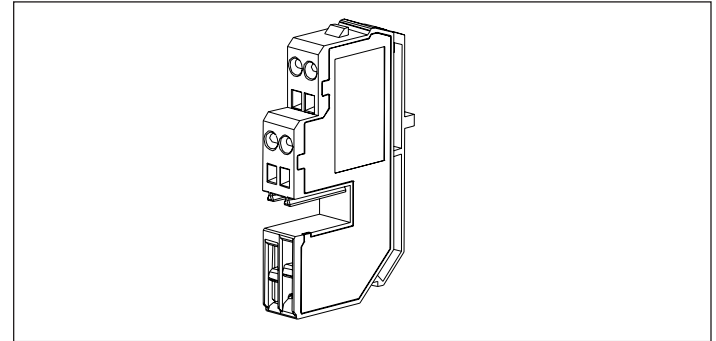
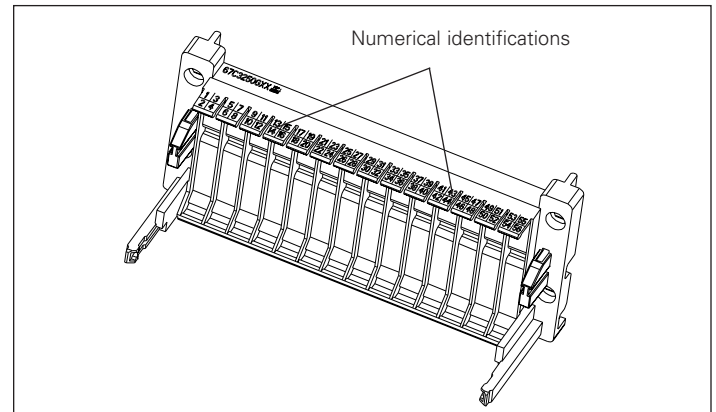
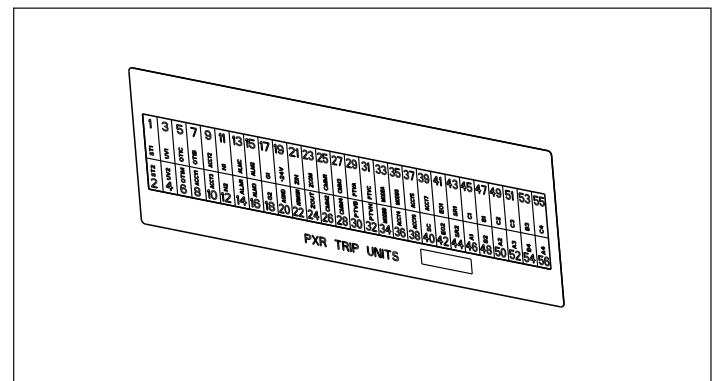

Figure 9. Drawout terminal block.
Figure 10. Drawout terminal block mounting bracket.
Figure 11. Cassette secondary over label.
Step 1. Become familiar with the drawout terminal block (see Figure 9), the terminal block mounting bracket (see Figure 10), and the cassette secondary over label (Figure 11).